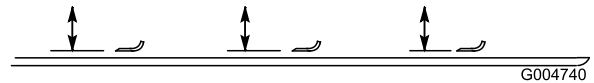

Figure 90
- Rotate the blade until the ends face forward and backward (Figure 90). Measure from the inside of the cutting unit to the cutting edge at the front of the blade. Remember this dimension.